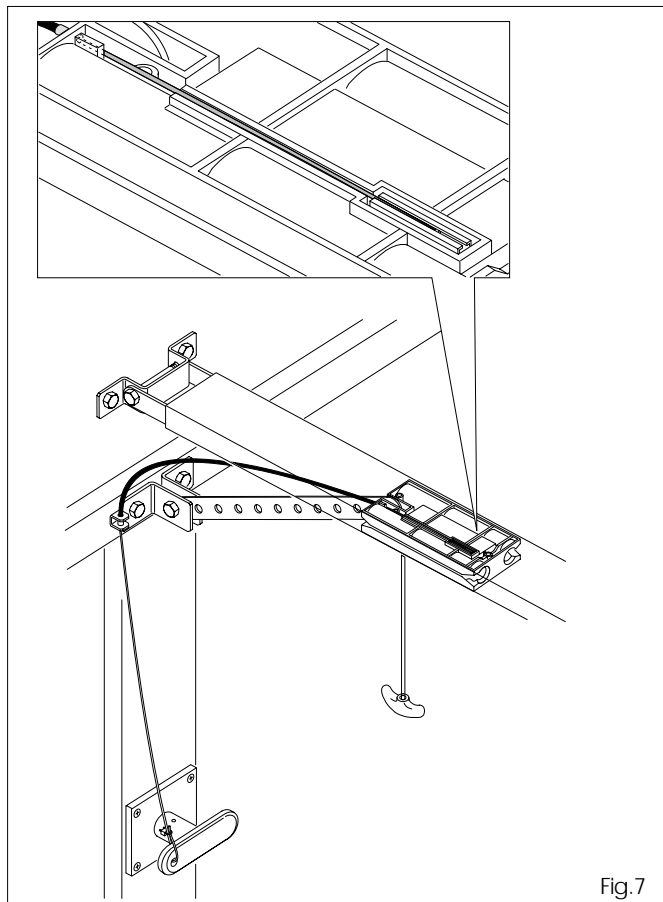

Fig.7
5.1 If using the outside release device (optional item), withdraw the carriage from the guide, and fit the cable in the appropriate seat on the carriage, as shown in figure 7.